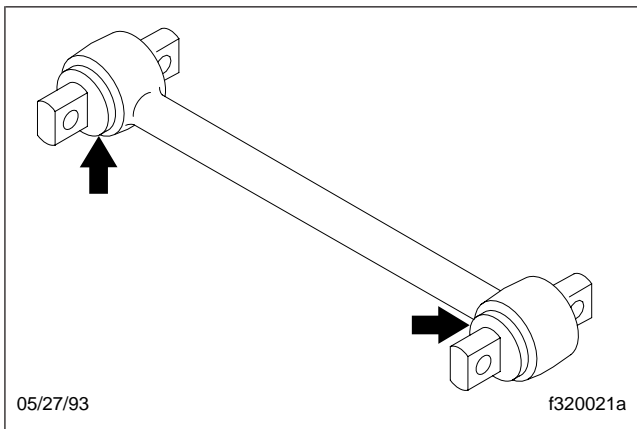

Fig. 2, Torque Arm Bushings
3. Inspect the rubber bushing ends. See **Fig. 2**. Replace the torque arm for any of the following reasons: